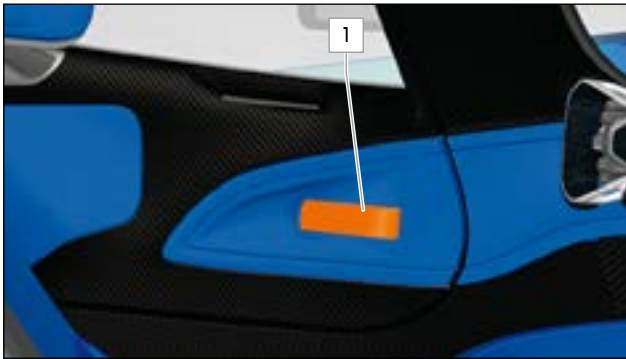

FIG.43 INTERIOR SOFT HANDLE
The interior soft handle 1 (» Fig.43) must not be used to close the door from inside.
- ▶ Pull the interior soft handle 1 (» Fig.43) forward until the door is unlocked.